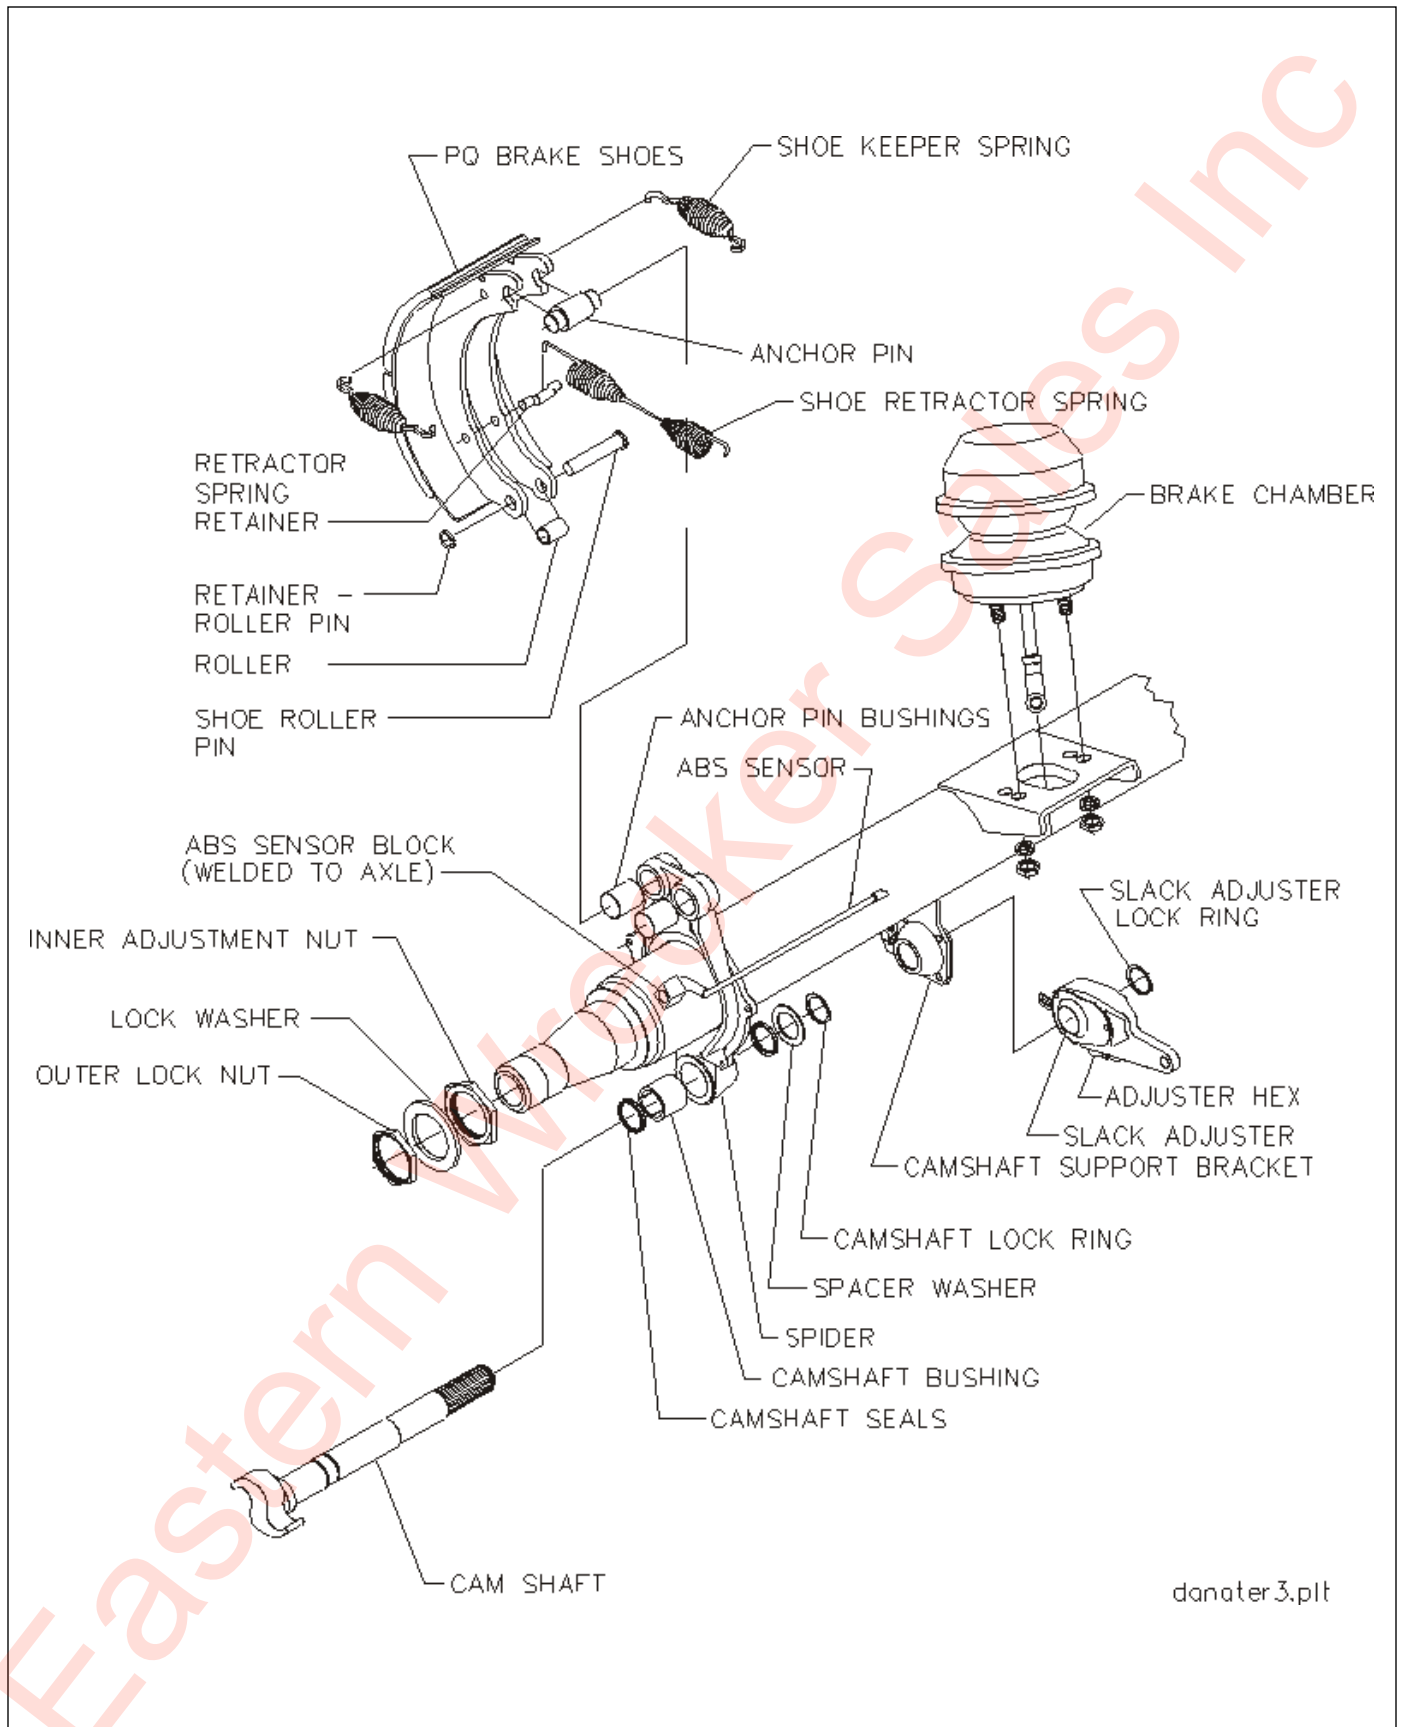

Figure 4-8: Axle and Brake Assembly
4. Disconnect the slack adjuster from the connecting rod by removing the clevis pin (**See Figure 4-8.**)
1. Release brakes and back off slack adjuster **(See Figure 4-8.)**